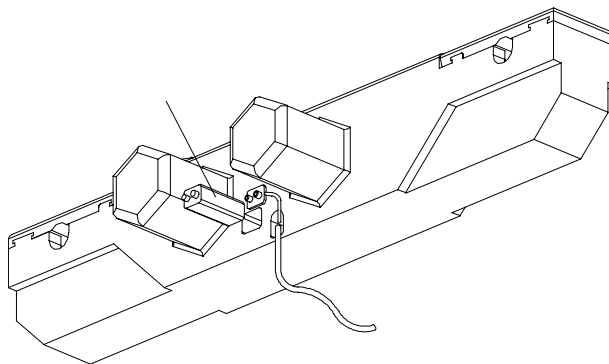

Figure 11
- Connect the 9V battery fitted to the OKIMAT casing to the contact clip and check that the battery is securely seated (see Figure 11). If necessary, push 9V battery firmly into its location.